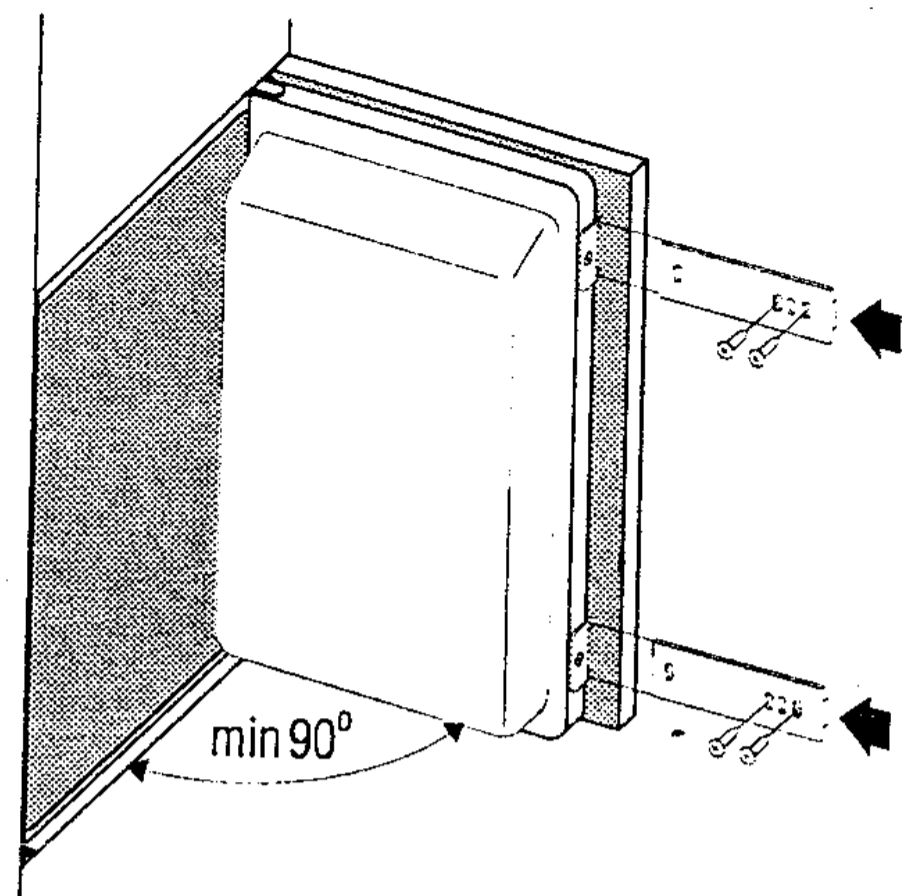

Fig. 2
- ❖ Put together the appliance door and the door of the kitchen unit (Fig. 2).